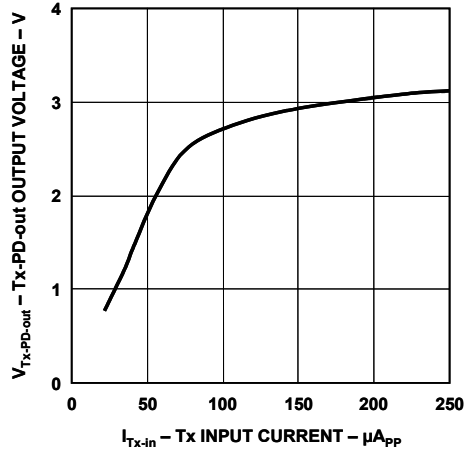
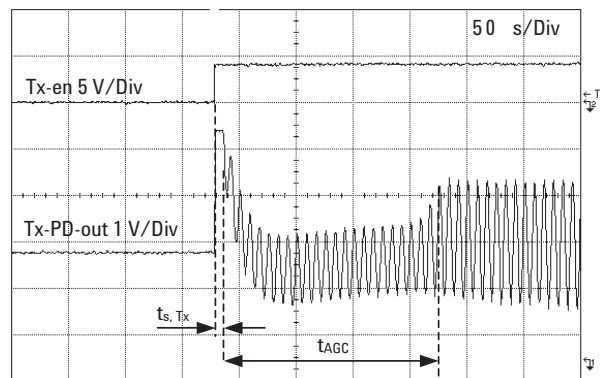

Figure 8. Tx-PD-out output voltage vs. Tx-in input current
Figure 26. Tx-PD-out AGC response time
- Time from transmit is enabled ( $V_{Tx-en}$  is set to logic high) until output (Tx-PD-out) is available. See Figure 26 in the Application Information section.
- Time from output (Tx-PD-out) is available until Tx-PD-out signal reaches 66% of its steady state level. See Figure 26 in the Application Information section.
This AGC circuit compensates for variations in the input signal level presented at Tx-in and variations in the optical channel over temperature and time. The Tx-PD-out output signal is effectively stabilized for input Tx-in signals of between  $150 \mu A_{pp}$  and  $250 \mu A_{pp}$  (see Figure 8). The AGC circuit starts to function  $10 \mu s$  after the Tx-en signal is set to logic high. After a period of  $180 \mu s$  the Tx-PD-out signal typically reaches 66% of its steady state level (see Figure 26). To ensure correct operation of the internal circuitry, an external  $1 \mu F$  capacitor needs to be connected from pin 11 to GND2.